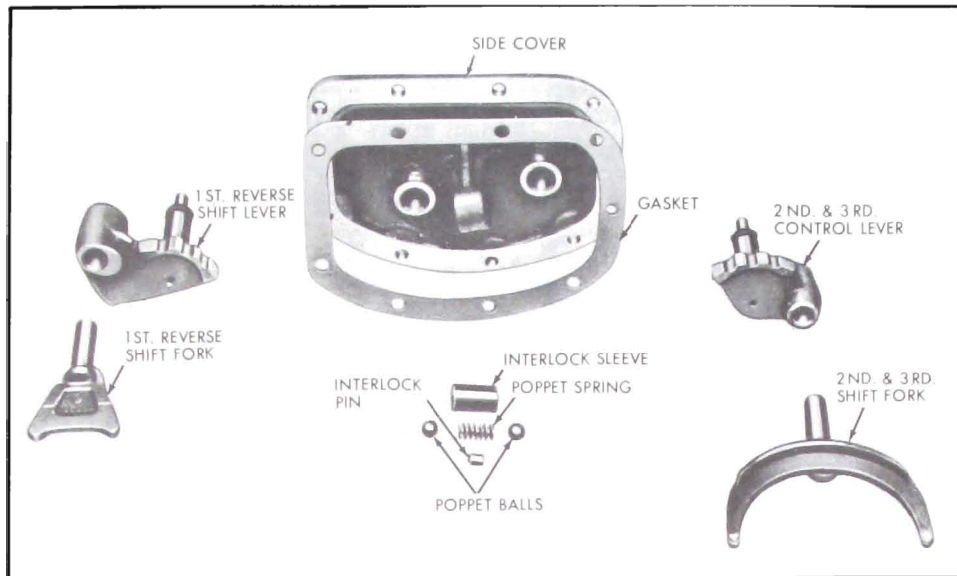

Figure 4-79—Transmission Side Cover
5. Carefully push the shifter shafts into cover, allowing the detent balls to fall free, then remove both shifter shafts. See Figure 4-79.
6. Remove interlock sleeve, interlock pin and poppet spring. See Figure 4-79.
2. Start second shifter shaft into position and place second detent ball on poppet spring. Compress ball and spring with screwdriver and push the shifter shaft fully in. See Figure 4-79.